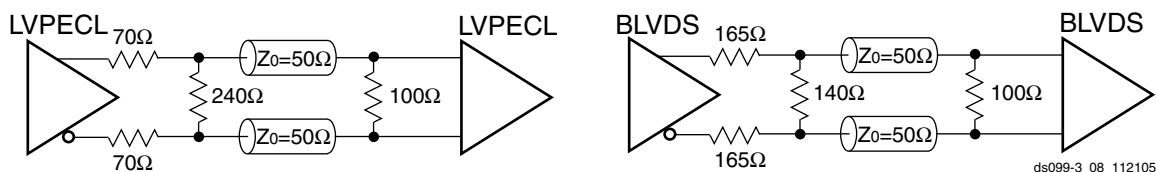

Figure 34: External Termination Required for LVPECL and BLVDS Output and Input
- Each LVPECL_25 or BLVDS_25 output-pair requires three external resistors for proper output operation as shown in Figure 34. Each LVPECL_25 or BLVDS_25 input-pair uses a 100W termination resistor at the receiver.